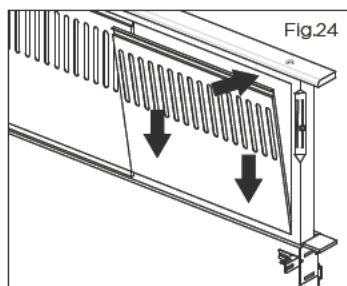

Fig.24
- Install the grease filters Fig.24.